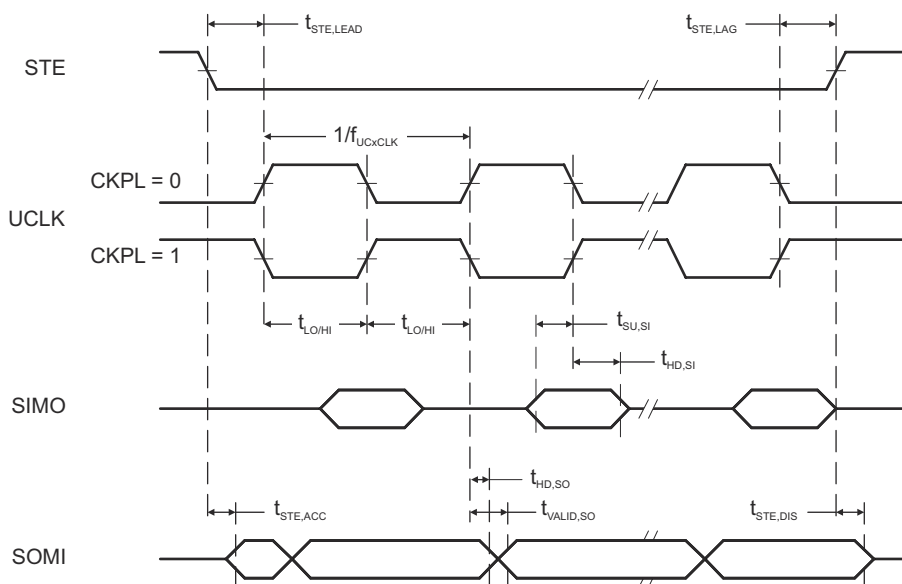
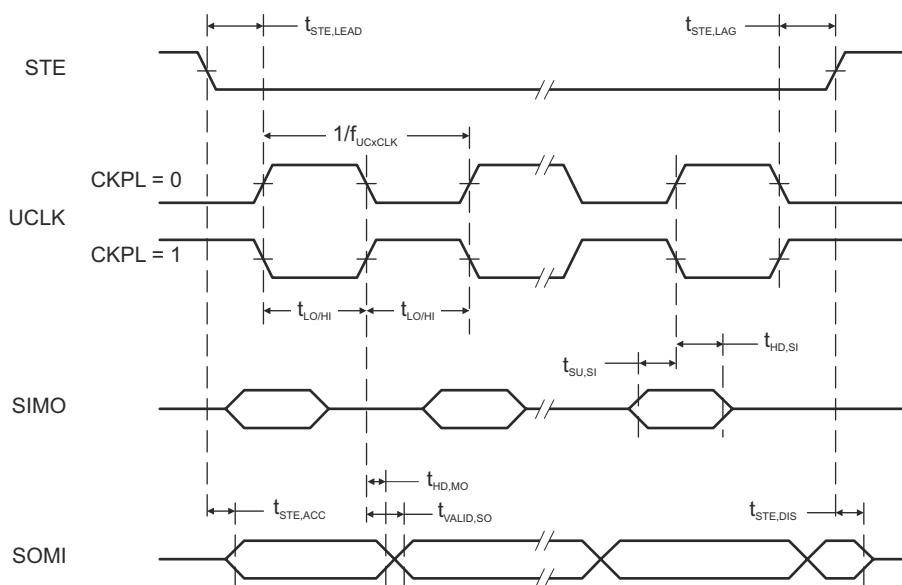

Figure 8-15. SPI Slave Mode, CKPH = 0
Figure 8-16. SPI Slave Mode, CKPH = 1
(see Figure 8-15 and Figure 8-16)
- (2) Specifies the time to drive the next valid data to the SOMI output after the output changing UCLK clock edge. See the timing diagrams in Figure 8-15 and Figure 8-16.
- (3) Specifies how long data on the SOMI output is valid after the output changing UCLK clock edge. See the timing diagrams in Figure 8-15 and Figure 8-16.